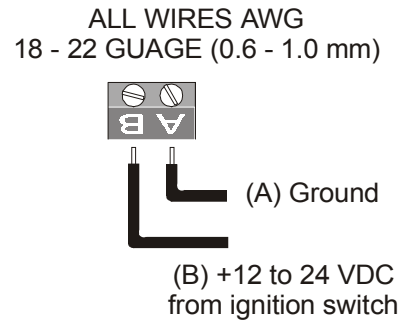

Figure 2 - Wiring Diagram
- Bring the power and ground lines out of the mounting hole and use a small flat screwdriver to make the connections to the screw terminal on the instrument case back as shown in figure 2.
- Carefully check all your wiring against those shown in figure 2. If everything is wired correctly, turn on the ignition switch and check the operation.